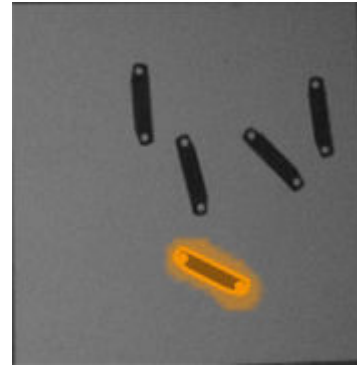

Figure 22: Highlighted part contours
- ✓ When the system locates the part, a "Job configured" message is displayed in the user interface and the part contours are highlighted in the image window. See figure 22.